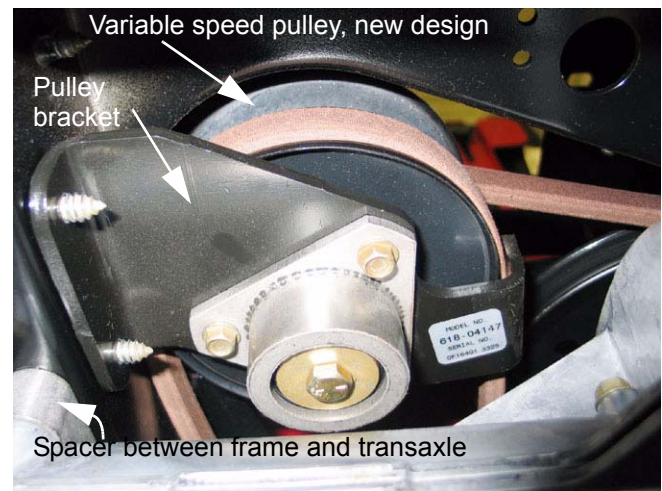

Figure 3.2
- 3.2. The new transaxle (P/N: 618-04133A) requires a separate bracket for the variable speed pulley. See Figure 3.2.